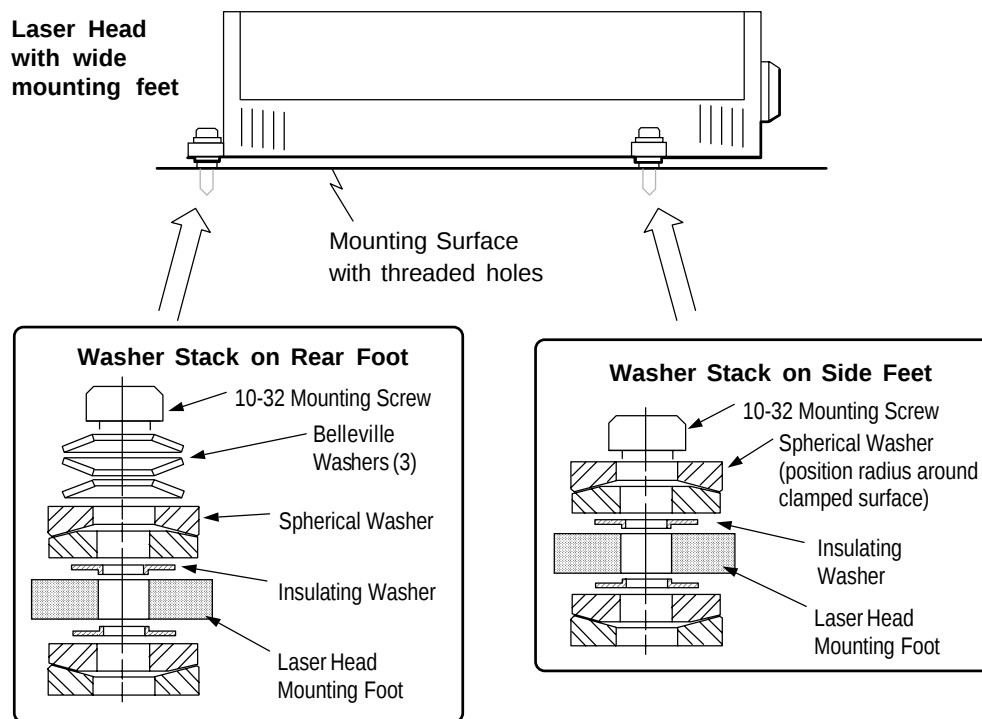

Figure 2-2 Mounting Kit Detail
4. For Laser Head configurations with wide mounting feet, use the mounting kit included with the Laser Head, as shown in Figure 2-2. To secure the Laser Head: